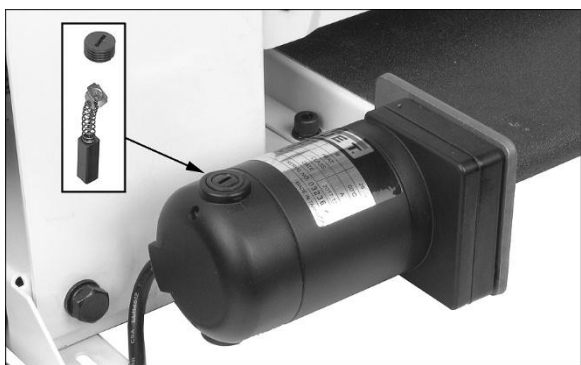

Figure 10-4: brush inspection
2. Unscrew and remove cap with flat blade screwdriver. See Figure 10-4.